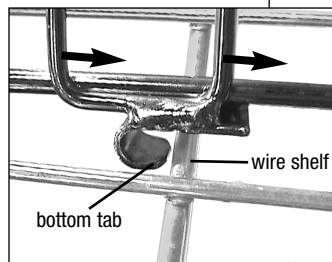

figure 7
- 2) Pull divider toward the front of the shelf. Both bottom tabs should catch the wire shelf, as shown in *figure 7*.